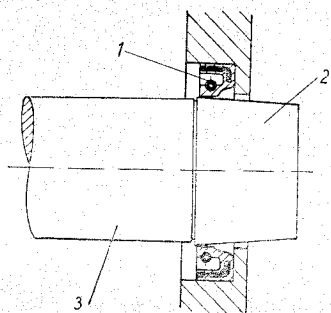
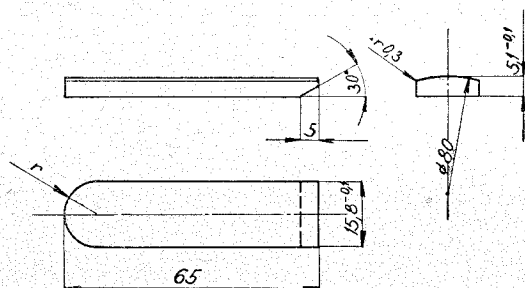

Fig. 1.
Fig. 2.
4. When fitting over sharp edges use a tapered fitting cartridge or hollow drift one end of which has a diameter larger by several hundredths of millimetres than the shaft it is to be fitted to (see Fig. 1). To prevent damage to the seal ring of the crankshaft caused by the sharp edge of the keygroove in the crankshaft it is advisable to use a fitting key as shown in Fig. 2.